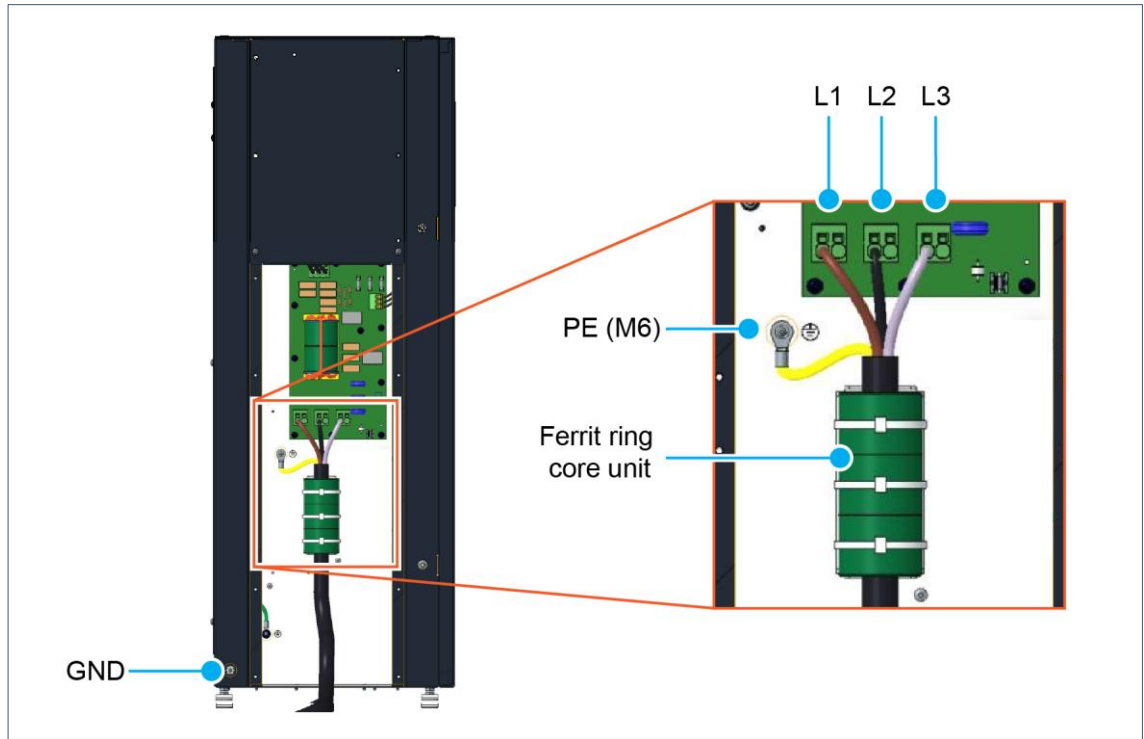

Figure 52 Feeding the Cable through Cable Gland (view without Covers)
Note: In Figure 52, EU wire colors are shown in .
6. Attach the cable gland or conduit and feed the cable through to reach the ferrite ring core unit, see Figure 52).